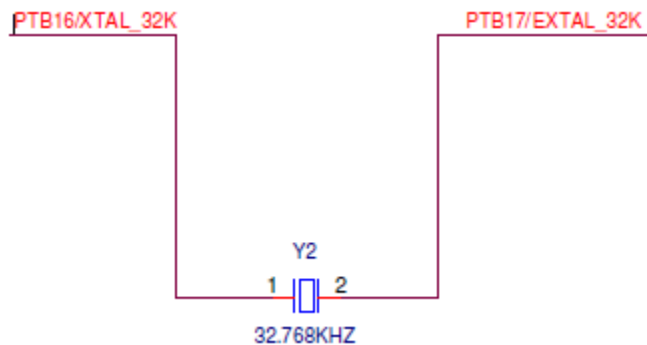

Figure 12. FRDM-KW36 32.786 kHz oscillator circuit
- 32.768 kHz Crystal Oscillator (required to support radio deep sleep mode)— 32.768 kHz crystal Y2 is provided (see Figure 12 on page 12).